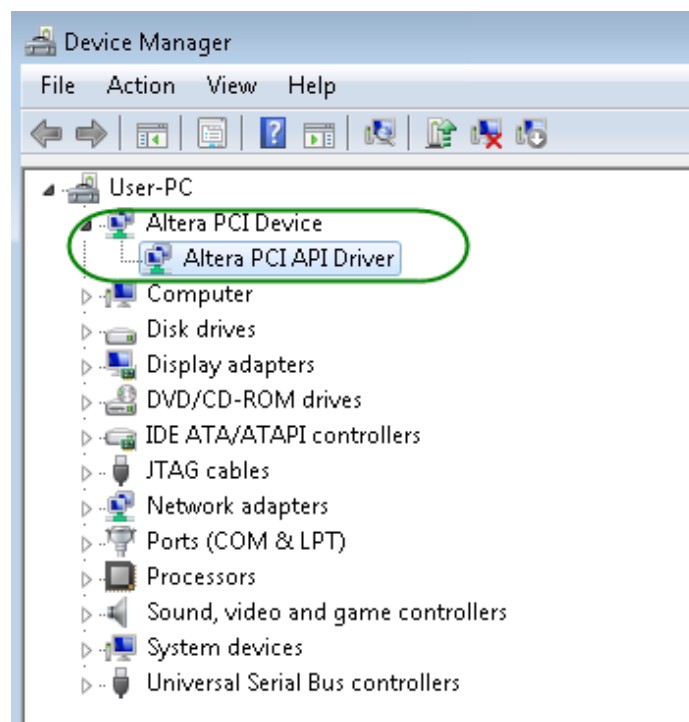

Figure 6-8 Altera PCI API Driver in Device Manager
10. Once the driver is successfully installed, users can see the **Altera PCI API Driver** under the device manager window, as shown in **Figure 6-8**.